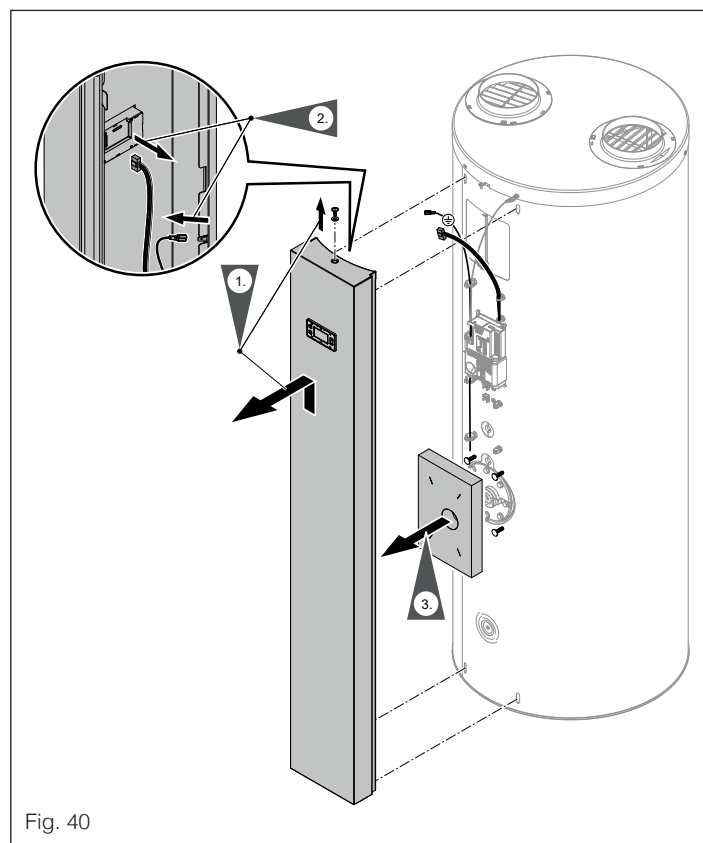

Fig. 40
- 2 Remove the front cover. See "Fig. 40".
- 3 Remove the front cover. See "Fig. 40".
- 9 Fit the front cover with an earth cable, see "Fig. 40".
- 2 Remove the front cover. See "Fig. 40", "9.5 Removing the front cover" a pagina 64.
- 4 Fit the front cover with an earth cable, see "Fig. 40".